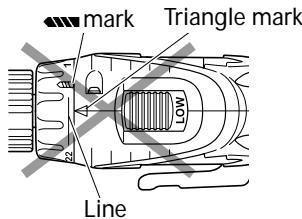

Fig. 17
- (1) When using this unit as a screwdriver, line up the one of the numbers "1, 3, 5 ... 22" on the clutch dial, or the black dot, with the triangle mark on the outer body.
(2) When using this unit as a drill, line up the clutch dial drill mark "■■■" with the triangle mark on the outer body.
- Do not use with the clutch dial set at the line between the number "22" and the drill mark "■■■". Doing so may cause damage (See Fig. 17).